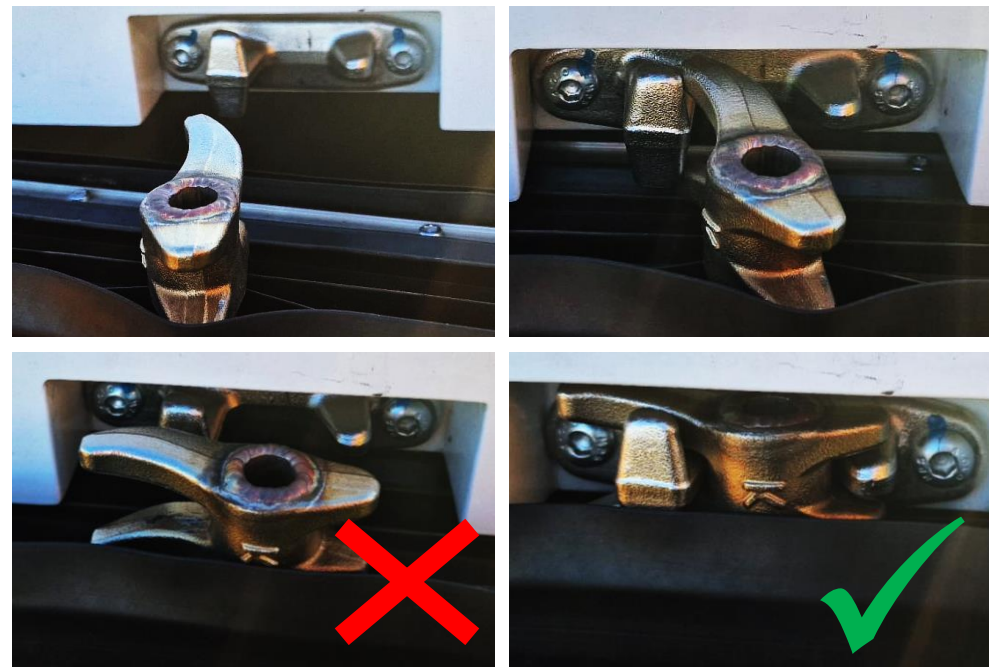

Figure 21 – Procedure to secure the door and the keeper.
2. When the door seal touch the structure, make sure the cam hooks the keeper (and Figure 21);